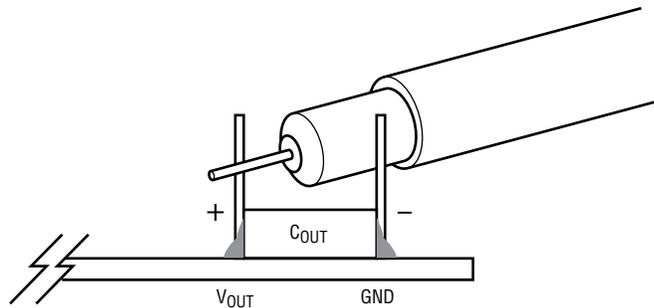

Figure 2. Scope Probe Placement for Measuring Output Voltage Ripple
6. Once the input and output voltages are properly established, adjust the loads within the operating range (0A to 2A Max) and observe the output voltage regulation, output voltage ripple, switch node waveform and other parameters. Refer to Figure 2 for proper output voltage ripple measurement.
NOTE 1: To measure the input/output voltage ripple properly, do not use the long ground lead on the oscilloscope probe. See Figure 2 for the proper scope probe technique. Short, stiff leads need to be soldered to the (+) and (-) terminals of an output capacitor. The probe's ground ring needs to touch the (-) lead and the probe tip needs to touch the (+) lead.